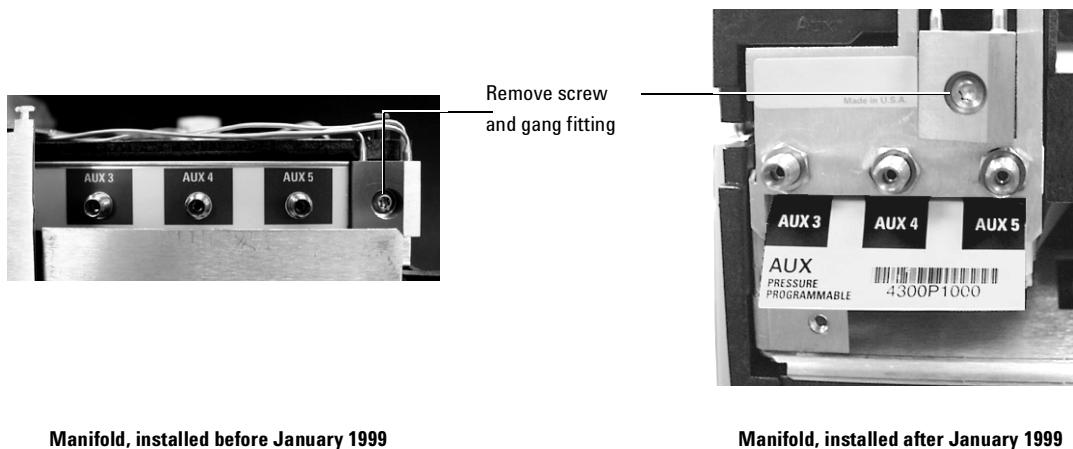

Figure 360-3 Removing the gang fitting
6. Remove the one Torx T-20 screw holding the gang fitting on the manifold. See Figure 360-3.